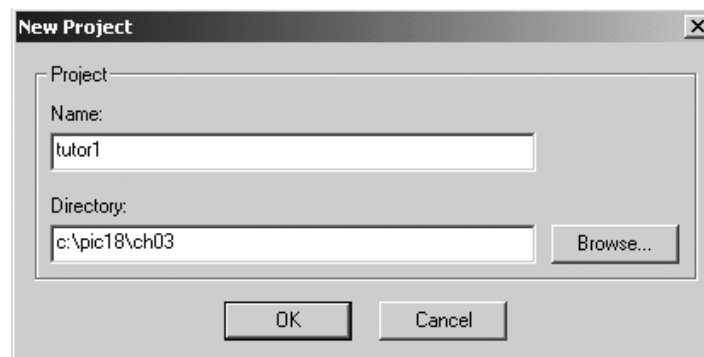

Figure 3.8 ■ New project dialog (reprint with permission of Microchip)
1. Select the *Project > New* menu. The New dialog will open as shown in Figure 3.8.